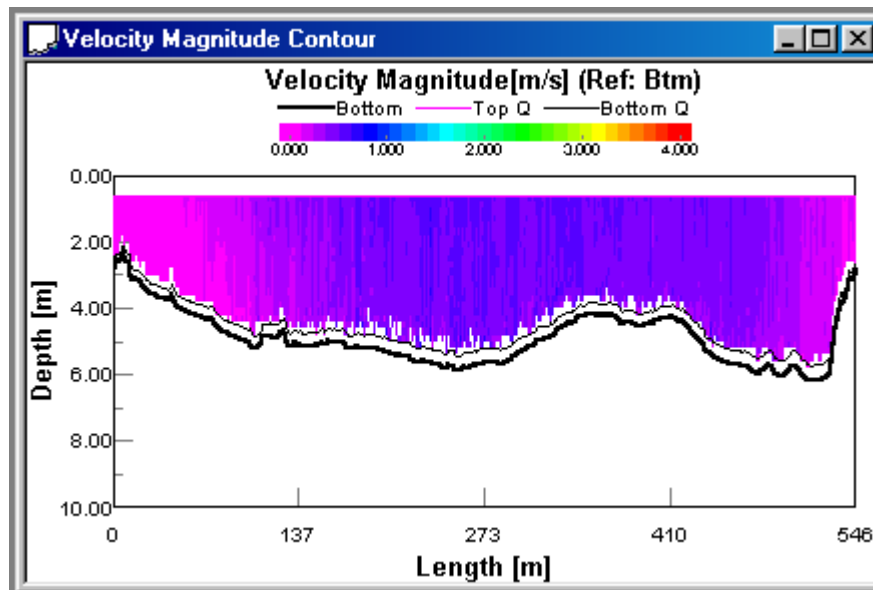

Figure 16. Velocity Magnitude Contour Plot
- c. Move out from the shore traveling slowly with the bow of the boat pointed upstream. On the **View** menu, select **Contour Plots, Velocity, Velocity Magnitude Contour**. The display will look similar to that shown in Figure 16. Use this display to see how the water depth changes as you make your transect. Note regions where the bottom depth changes quickly.